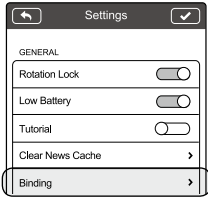
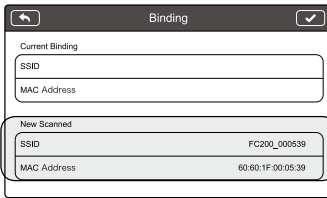
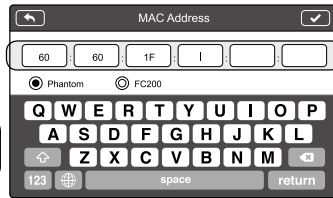

Figure 36
Figure 38
Figure 39
- (1) Power on the camera and Range Extender.
- (2) Approximately 30 seconds later, press the Binding Reset Button on the Range Extender with a pin until the SYSTEM Indicator turns off. The Range Extender will then restart automatically.
- (3) Approximately 30 seconds later, the SYSTEM Indicator will start to blink green, indicating that the Range Extender is ready for binding.
- (4) Enable Wi-Fi on your mobile device then select "Phantom_XXXXXX" (the SSID of your Range Extender) from the Wi-Fi network list.
- (5) Run the DJI VISION App then tap -> Settings -> General -> Binding (Figure 36). Select 'Scan QR Code' to scan the camera QR code on the bottom of aircraft (Figure 37). Get the camera SSID (E.g. FC200_XXXXXX) and the MAC address (Figure 38). You can also skip the scan and enter the camera MAC address directly (Figure 39). The MAC address can be found on the camera label.
- (6) Tap the tick in the top right corner. The Range Extender should automatically restart. Binding is now complete.